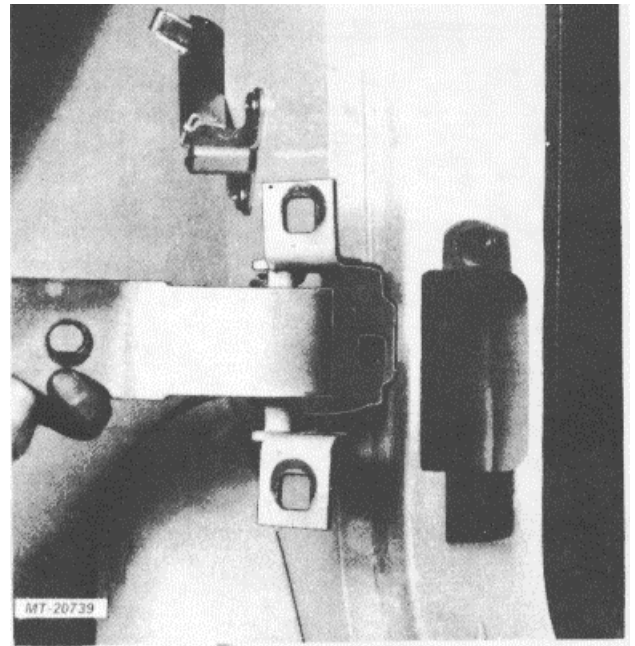

Fig. 9. Removing Cab Door Hinge From Hinge Pillar
6. To simplify door adjustment on reassembly, mark hinge position on hinge pillar with scratch awl before loosening hinges. Remove the three flange head bolts and detach door hinge from hinge pillar (Fig. 9).